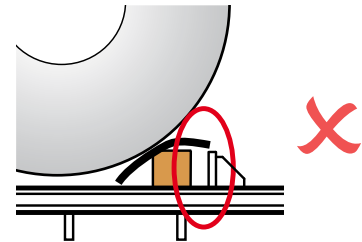

Fig.3.2: A gap between the timber and the coil rack can allow chains to loosen during transport.
- ✓ Place hardwood dunnage up against vertical upright of the coil racks, **NO** gaps allowed. (Fig.3.2)